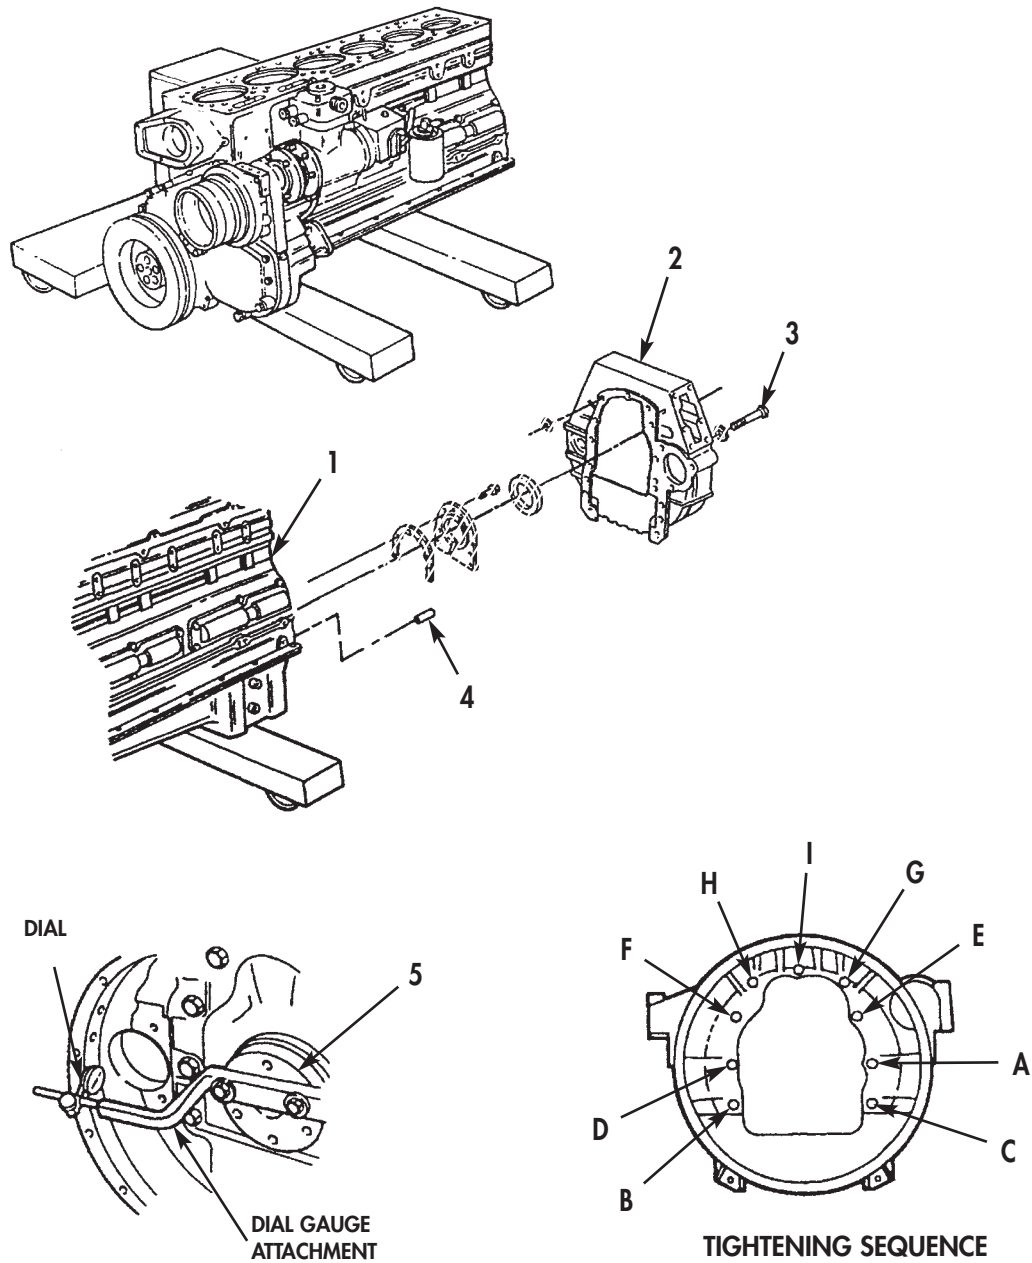

Figure 14. Flexplate Installation.
16. After readings are within limits, tighten screws (3) 140–160 lb-ft (190–217 N•m) in sequence shown in figure 14.
17. Adjust dial indicator to measure alignment of face on flywheel housing (2).
18. Push crankshaft toward front of cylinder block (1) to remove crankshaft end clearance.